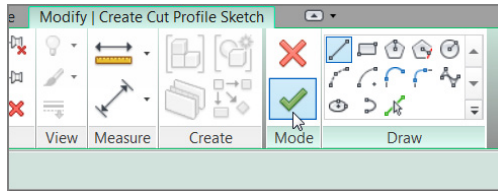
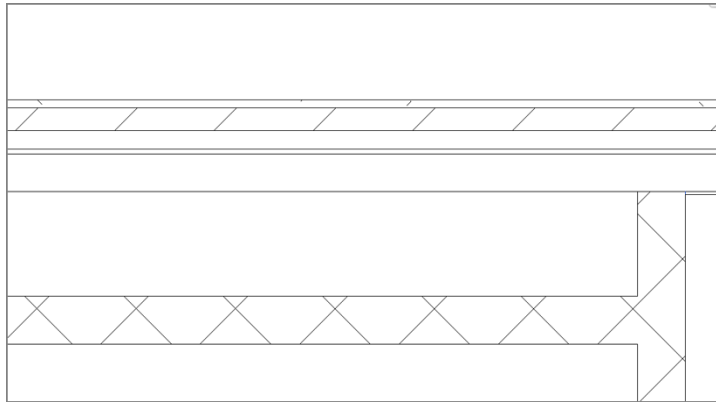

FIGURE 2.63: Clicking Finish Edit Mode finalizes the session and completes the command.
FIGURE 2.64: The finished wall with the drywall deducted from the core of the chase
9. What you see here is called Sketch Mode. Because you're finished sketching the cut profile, click Finish Edit Mode, as you can see in Figure 2.63. Figure 2.64 shows the final result.